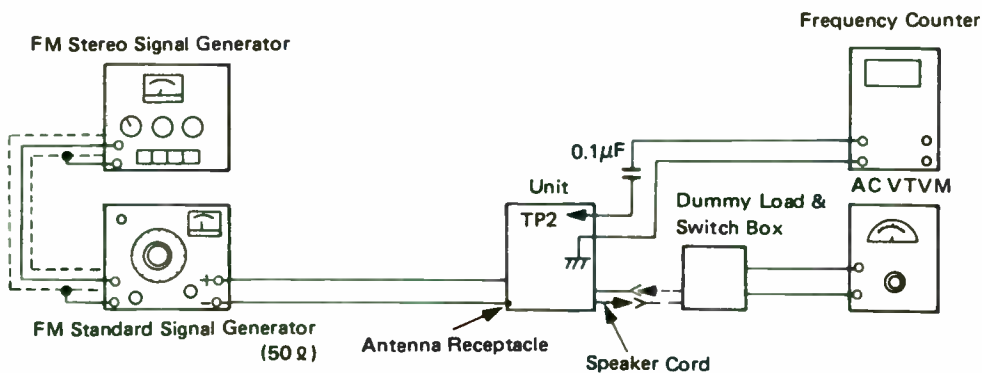

Figure 13
5. Set MONO/Stereo Selector to stereo position (Out). (See Figure 13).